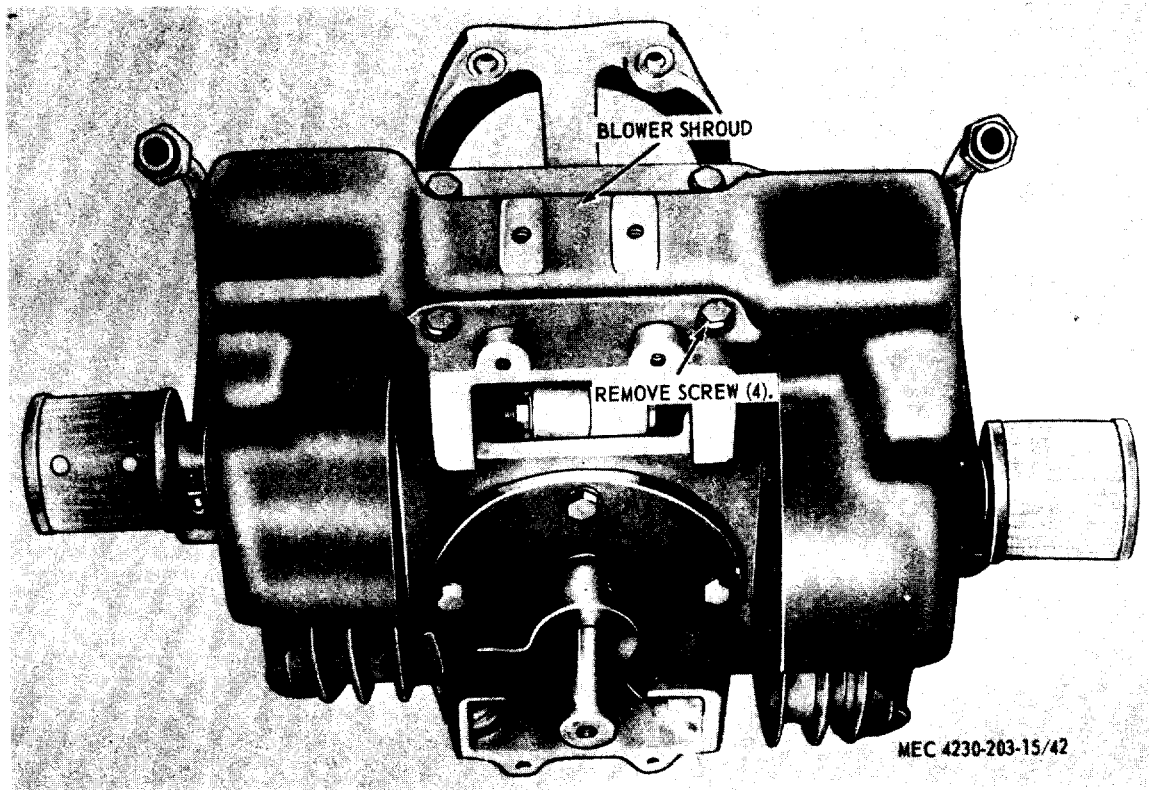

Figure 4-31. Blower shroud removal and installation.
- (1) Remove the blower scroll and screen (para 4-31).
- (2) Remove the manifold, clamps, bracket, tubing, and connectors (para 4-33).
- (3) Refer to figure 4-31 and remove the blower shroud.
(1) Refer to figure 4-31 and install the blower shroud.
(2) Install the manifold, clamps, bracket, tubing and connectors (para 4-33).
(3) Install the blower scroll and screen (para 4-31).